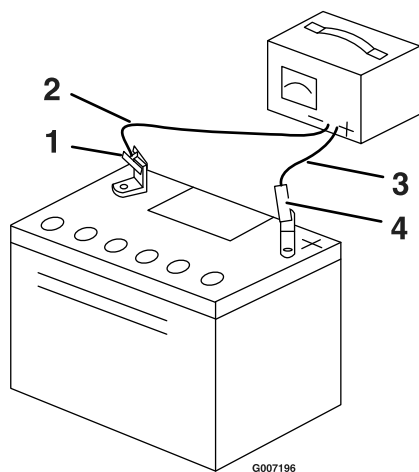

Figure 30
- When the battery is fully charged, unplug the charger from the electrical outlet, then disconnect the charger leads from the battery posts (Figure 30).